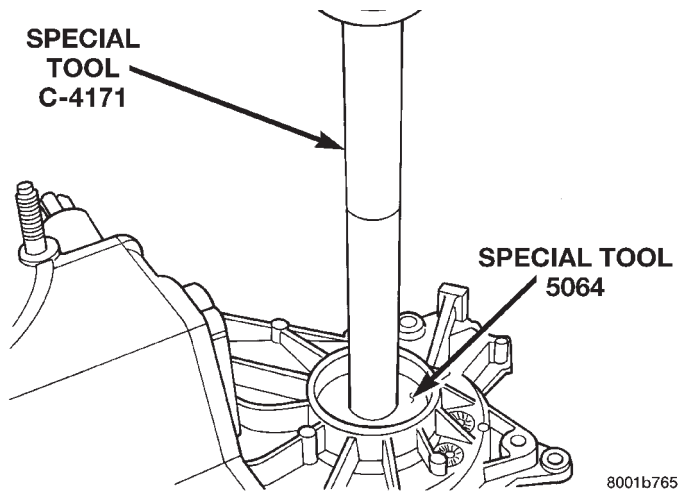

Fig. 43 Front Output Shaft Bearing Installation
- (4) Install front output shaft front bearing in case with Tool Handle C-4171 and Installer 5064 (Fig. 43).